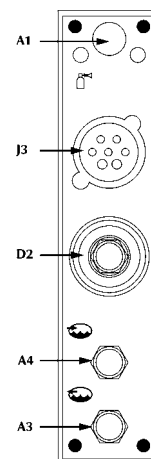

Fig. 20
- Connect the cable bundle to the socket D2 / J3 (fig. 20) and the pipes of the cooling liquid, if used, to the sockets A3 / A4.